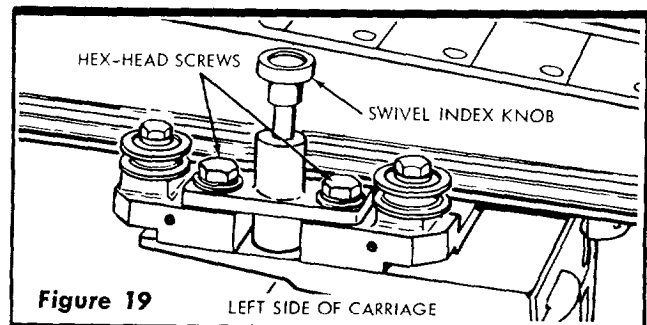

Figure 19 LEFT SIDE OF CARRIAGE
- c. Loosen (slightly) the two hex-head screws at location shown in figure 19.
- e. Tighten the yoke clamp arm. Then tighten the two hex-head screws. (See figure 19.)